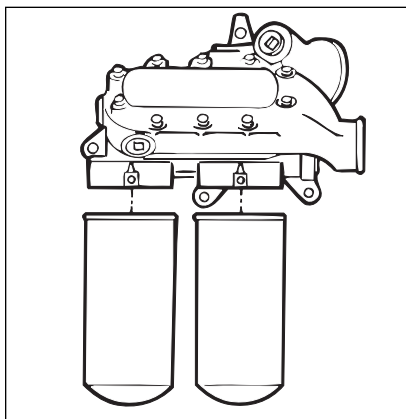

Figure 19. Spin-On Oil Filters
1. Remove the spin-on filters using strap wrench tool J 29917 (or equivalent) and a 1/2" drive socket wrench and extension. See Figure 19.